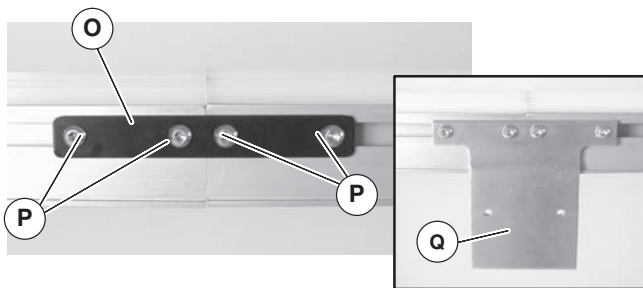

Figure 6
2. Join conveyor sections and install connector brackets (Figure 6, item O) or connector/mount brackets (Q) and screws (P) on both sides as indicated.
4. Tighten screw (Figure 6, item P) to 60in-lb (7 N-m) on both sides of conveyor.